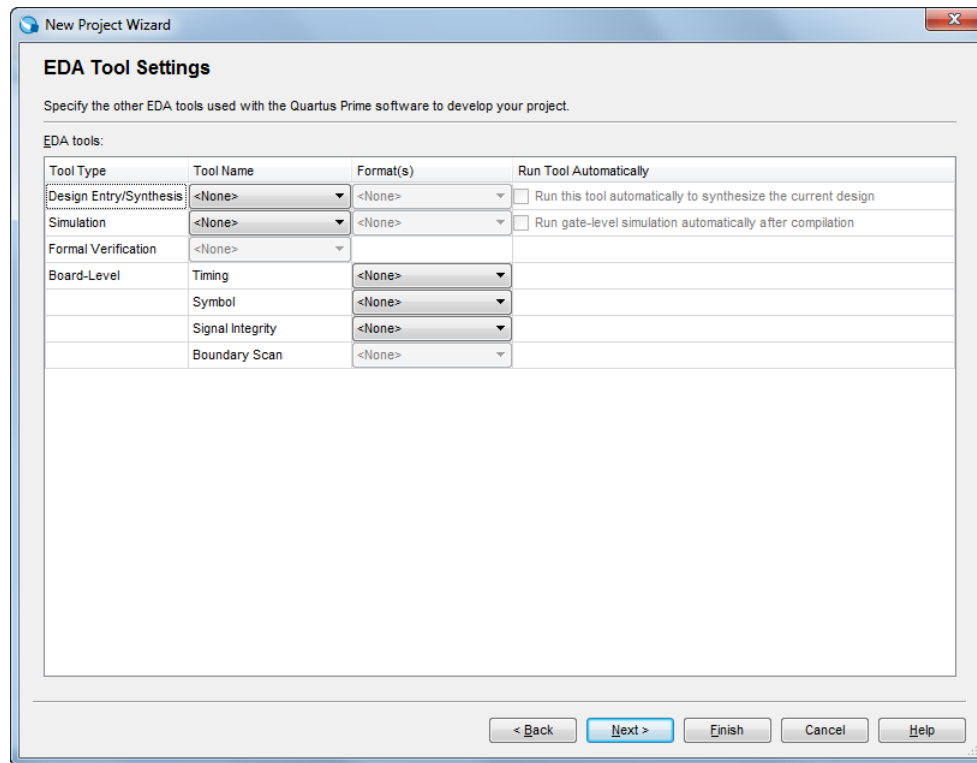

Figure 9. Other EDA tools can be specified.
- We have to specify the type of device in which the designed circuit will be implemented. Choose the Cyclone-series device family for your DE-series board. We can let Quartus Prime software select a specific device in the family, or we can choose the device explicitly. We will take the latter approach. From the list of available devices, choose the appropriate device name for your DE-series board. A list of devices names on DE-series boards can be found in Table 1. Press **Next**, which opens the window in Figure 9.